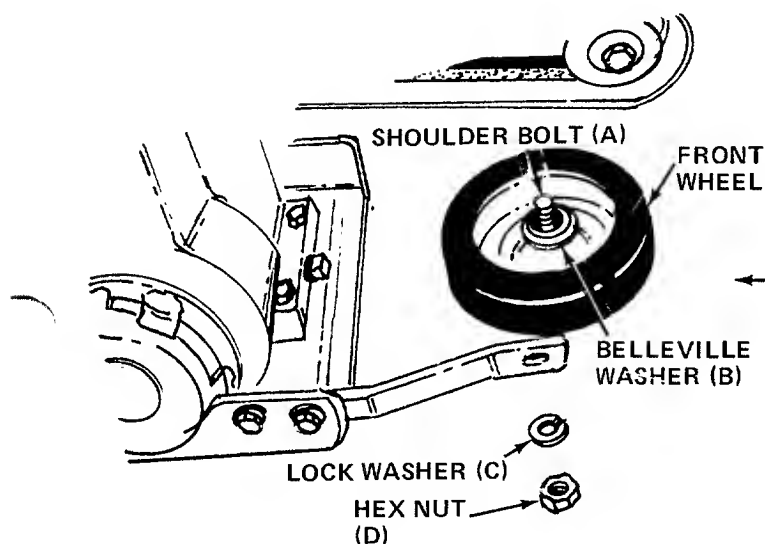

FIGURE 4.
5. Assemble the front wheel (O) toward the inside of the unit as shown in figure 4. Place shoulder bolt (A) through wheel, then belleville washer (B) (between wheel and frame, cupped side against the frame). Secure with lock washer (C) and hex nut (D). See figure 4.